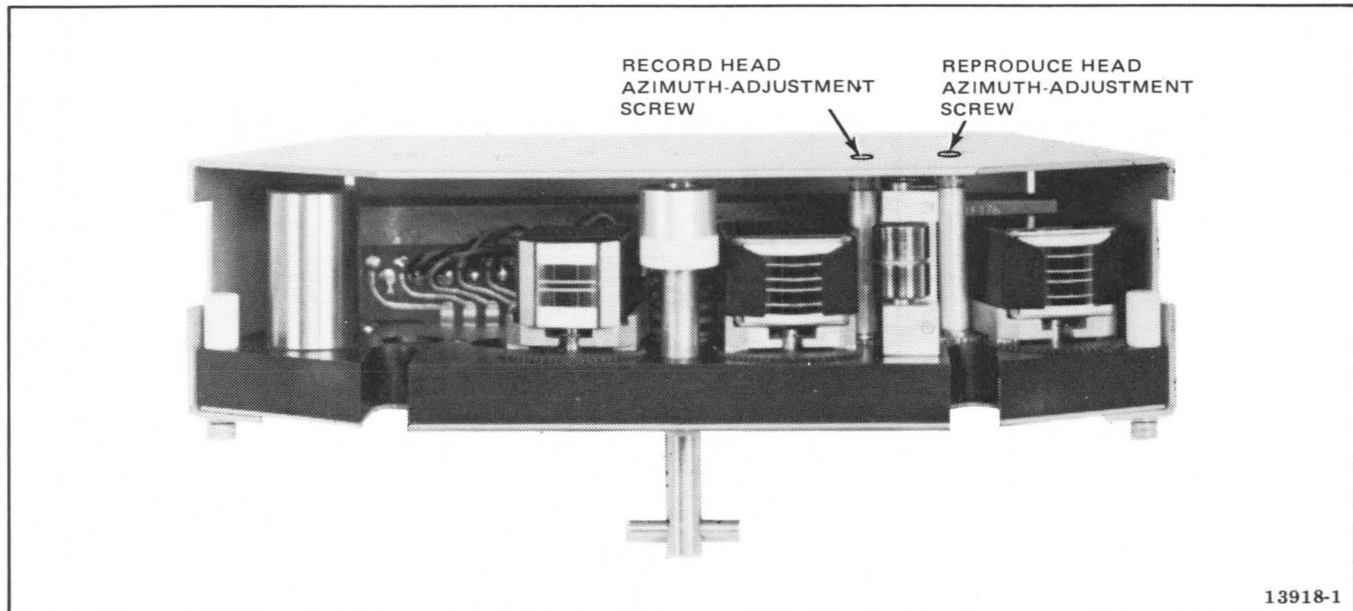

Figure 5-11. Azimuth Adjustment Screw Location
5-33. Head Azimuth and Phase — General Discussion. The only head adjustment required is for record and reproduce head stack azimuth. Precision mounting of the record and reproduce head stack has eliminated the need for adjusting tape wrap, height, and zenith. The azimuth adjustment is made by turning a hex socket screw accessible through the top of the head shield (Figure 5-11) which causes a tapered gear to rotate underneath the head-stack precision plate. The azimuth adjustment is adjustable over a range of ± 15 minutes of arc.
10. While reproducing the highest frequency tone on the alignment tape (7.5 kHz at 3.75 in/s or 15 kHz at 7.5, 15, and 30 in/s), adjust the reproduce head azimuth screw (Figure 5-11) for maximum output.
2. As a preliminary adjustment, turn reproduce head azimuth adjusting screw (Figure 5-11) so that reference hole in tapered gear is in front of the head-gap region.